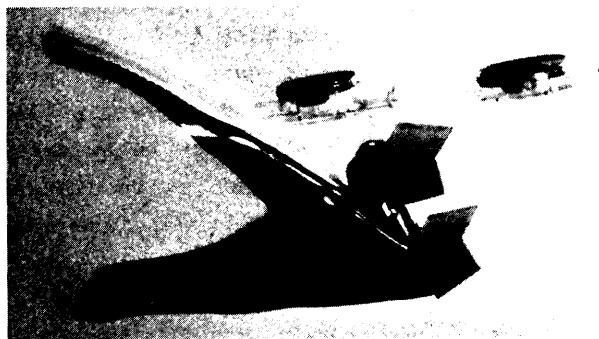

Figure 10
4.13 After completing the procedure described in Paragraph 3.02, take a 3M U1R connector and an E-9B connector crimping tool and prepare to join the two wires together (see Figure 10).